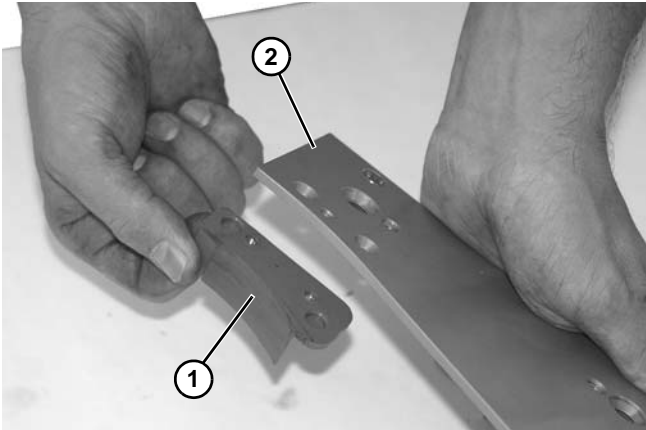

Figure 55
4. Remove lower retaining guide (Figure 55, item 1) from drive plate (Figure 55, item 2).